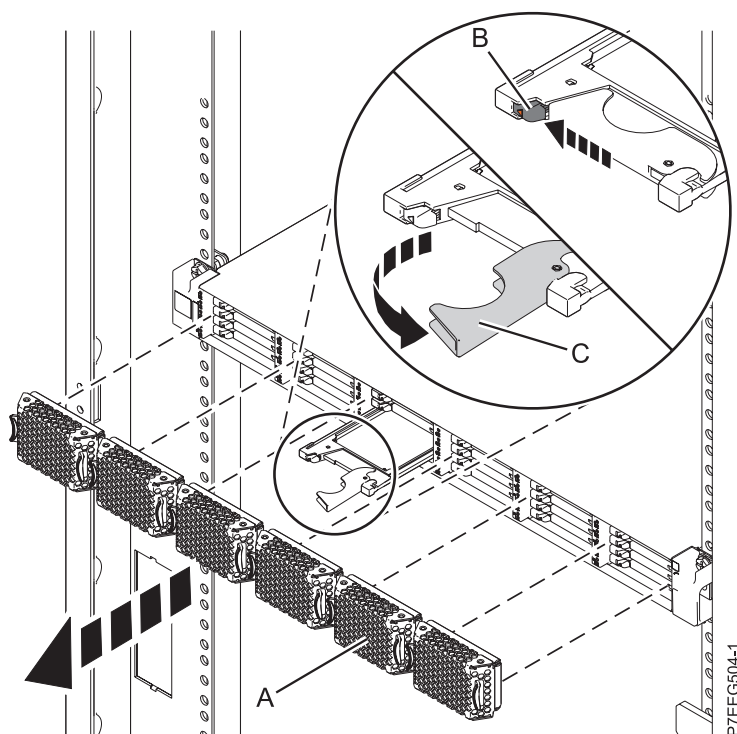

Figure 22. Removing the solid-state drive from the 58/88 PCIe storage enclosure
1. Pull off the bezel (A) that covers the slot containing the solid-state drive.
2. Slide the release latch (B) over gently to unlock the drive handle, see Figure 22 on page 36.
4. When the solid-state drive identify LED flashes, grasp the handle (C) and pull the drive partially out of the slot.